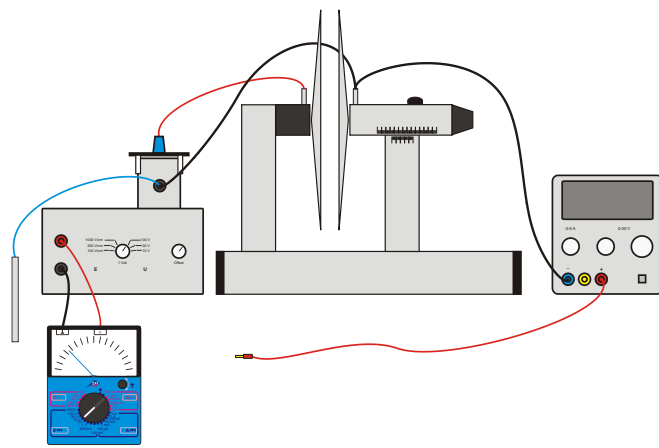

Fig. 2: Experiment set-up
- Set up the experiment as shown in Fig. 2.